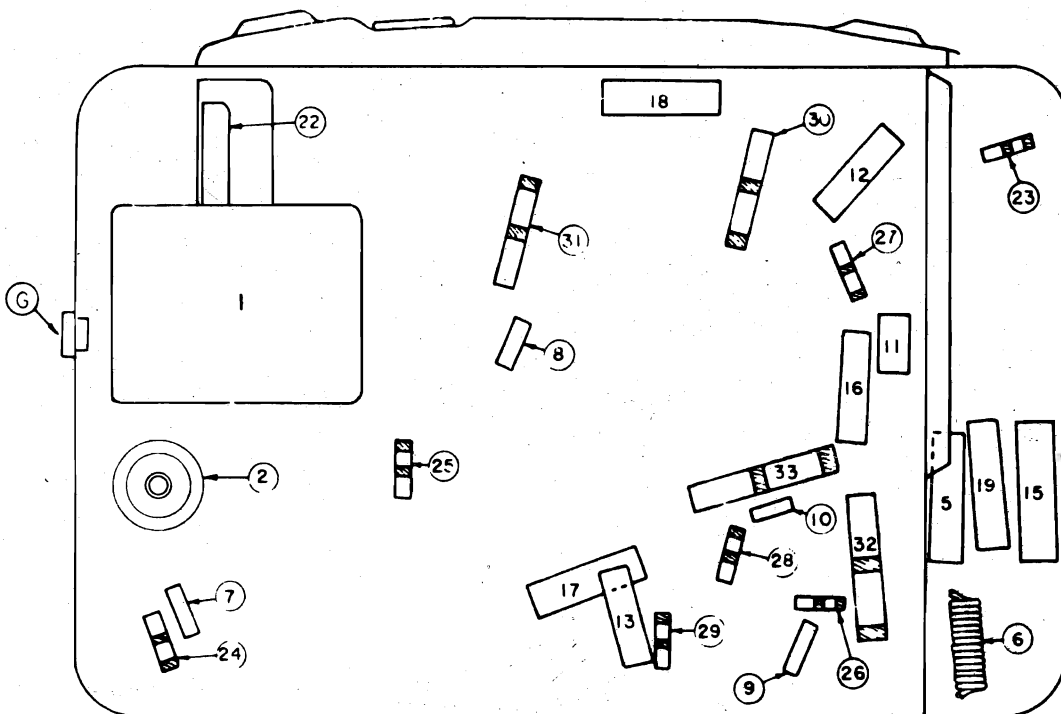

FIG. 4--PARTS LAYOUT--Bottom View
- Connect the signal lead of the signal generator to the grid end of condenser (illus. 8, Fig. 4) through a .1 mfd. condenser.